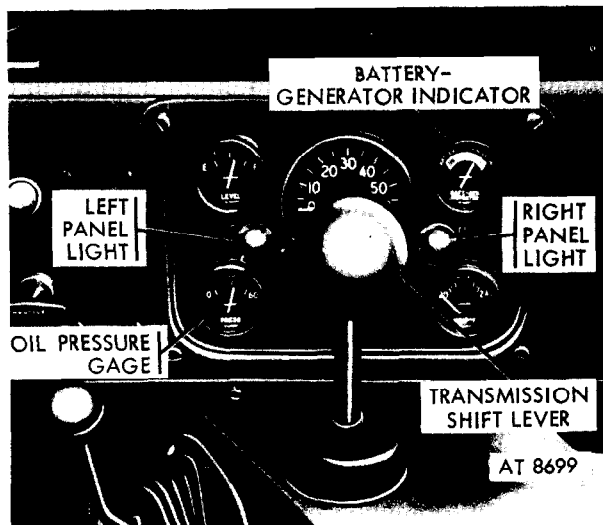

Figure 2-10. Oil pressure gage and battery generator indicator.
*h.* Check oil pressure (fig 2-10). Gage should read above 15. Battery generator indicator (fig. 2-10), should register in green area.
*c.* Place transmission shift lever (figs 2-10, 2-1-(H)), in first gear. Refer to shift pattern on dash panel plate (figs 2-1-(U), 1-10 through 1-13).
*d.* Place transfer lever (figs 2-10, 2-1-(K)) for front wheel drive in desired position. Refer to shift pattern on dash panel plate (figs 1-10 through 1-13).
*i.* When it is necessary to engage front wheel drive with transfer shift lever (figs 2-10, 2-1-(K)) move transfer lever forward to "IN" position.